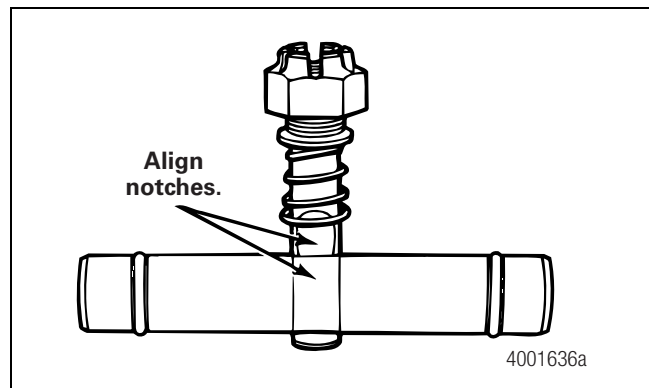

Figure 10.17
7. The notch in the slide pin retainers must be toward the bore for the slide pin. The notches in the retainer and the slide pin must engage when you install the slide pin. Figure 10.17.